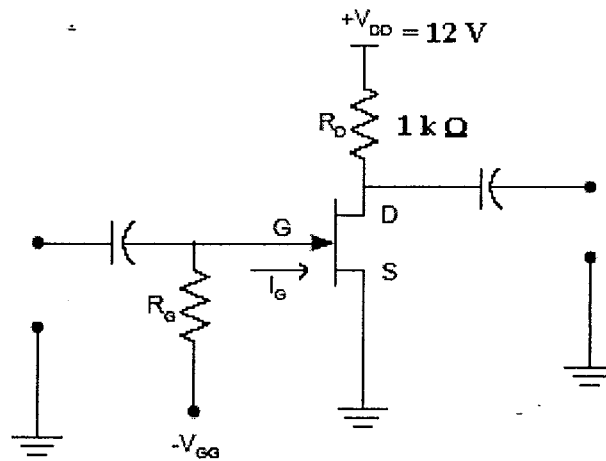

Figure 3
- [c] A biasing circuit of n-channel JFET is shown in Figure 3. If pinch off voltage, $V_{GS(off)} = -5 \text{ V}$ and drain-source current saturation, $I_{DSS} = 12 \text{ mA}$, plot transconductance curve and determine the Q-point value for $V_{GG} = -0.5 \text{ V}$.